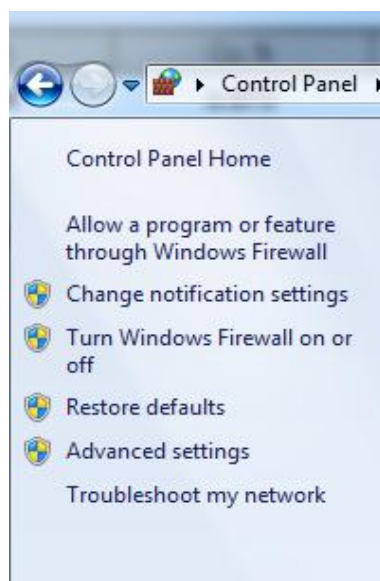

Figure 3-20 Enable and Close
Step 4 Locate the Windows Defender Firewall "Enable and Disable" and set the firewall to off, as shown in Figures 3-20 and 3-21: